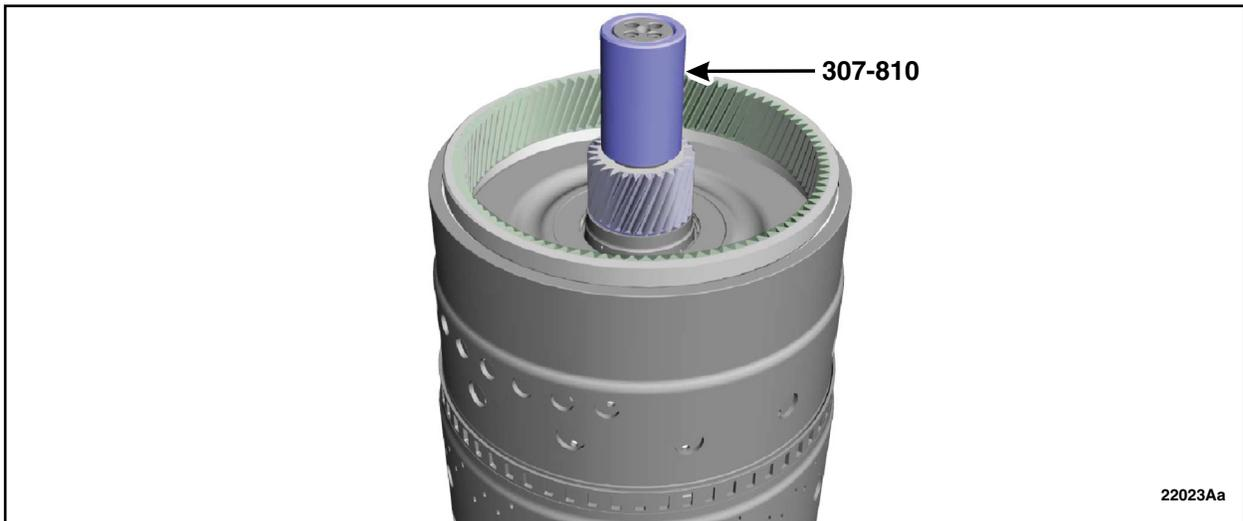

FIGURE 36
40. Using the Special Service Tool: 307-810 pusher & sizer, F9 Seal guide, size the Teflon® seal. Allow the special tool to stay on the input shaft until final assembly. See Figure 36.